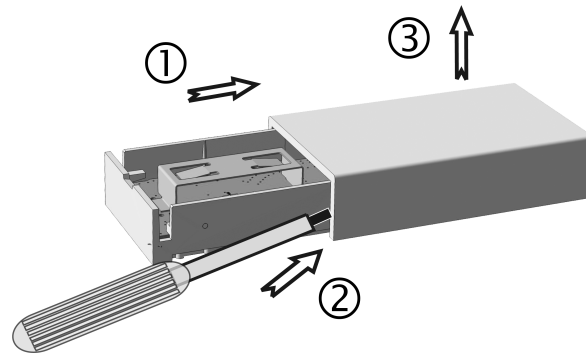

Figure 2: Raise housing lid
- To remove the cover, it must first be lifted off on one side, e.g. with a small screwdriver (Figure 2).